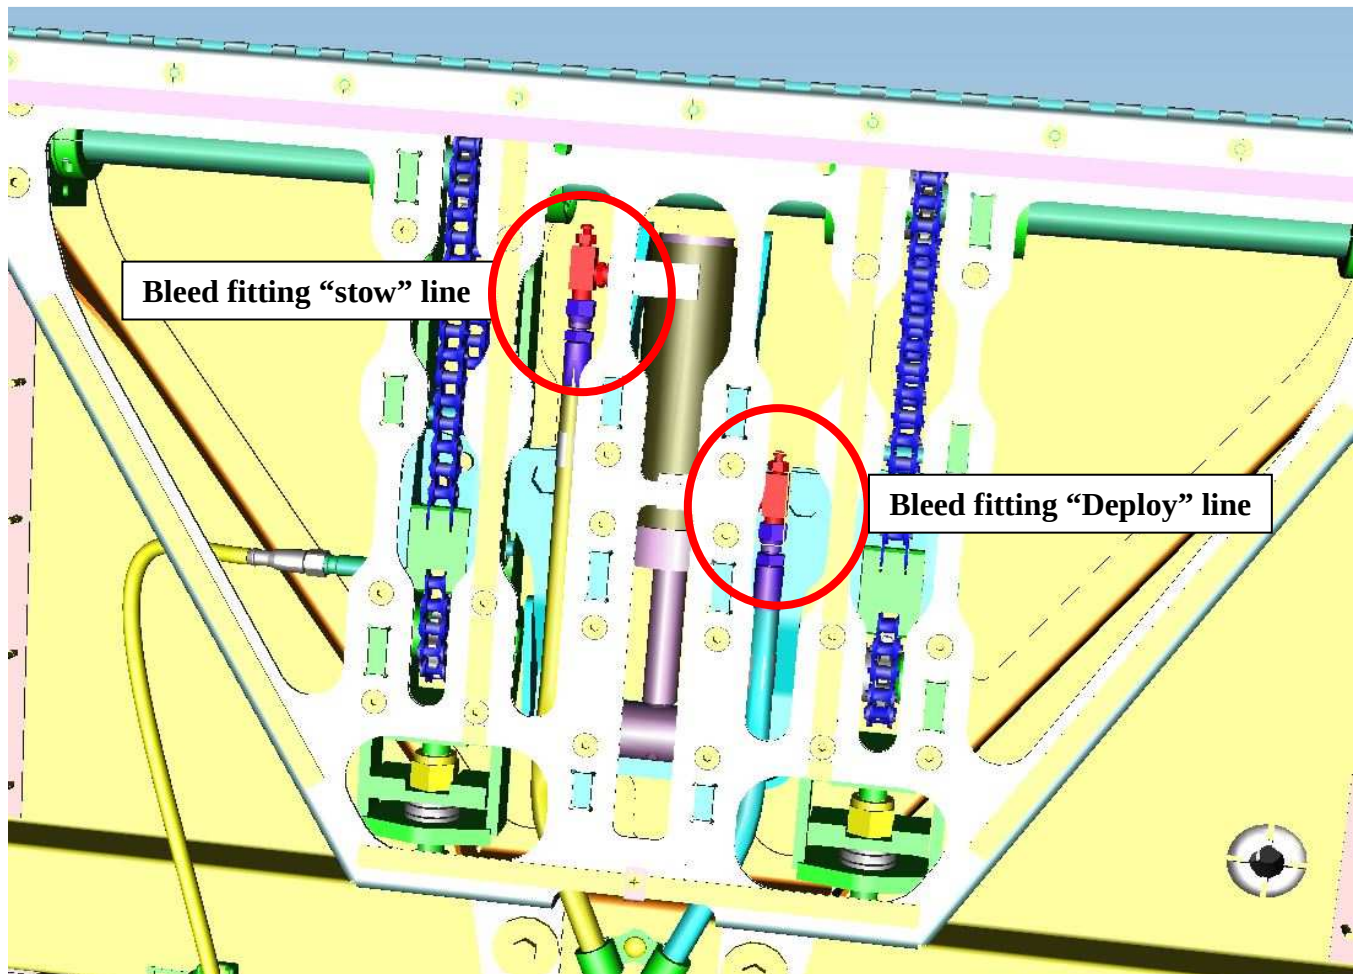

Figure 8: Bleed fittings
- f. Crack open the bleed fitting on the stow line at the base end of the cylinder. Figure 8.
- i. Tighten the bleed fitting on the STOW pressure line at the base end of the cylinder and crack open the bleed fitting on the DEPLOY line at the rod end of the cylinder. Figure 8.